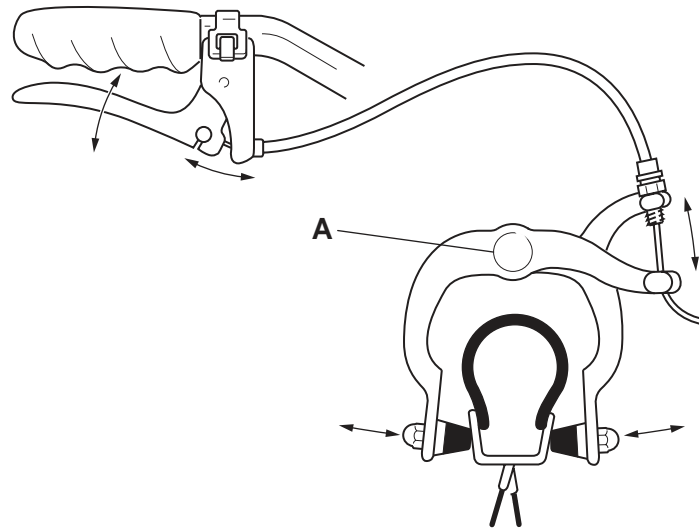

Fig. 5
- 5 The mechanism used in the bicycle brake shown in Fig. 5 is based on a bell crank. The brake lever pulls the cable which causes the two brake arms to move towards each other simultaneously. This action brings the two pads into contact with the braking surface of the wheel rim. Springs cause the arms to move back when the lever is released.